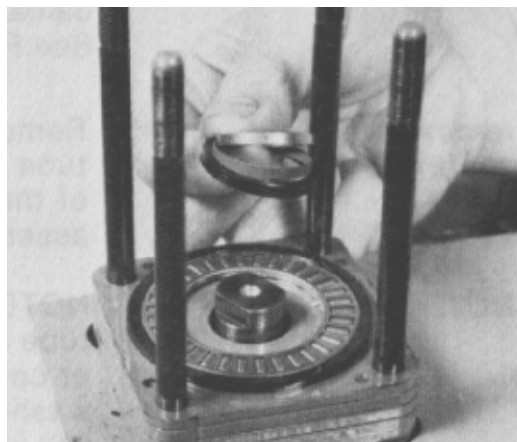

Figure 72
40. Remove the face seal, backup ring, and face seal spacer from the upper cover plate (Fig. 72). Discard the face seal and backup ring. Keep the metal spacer.